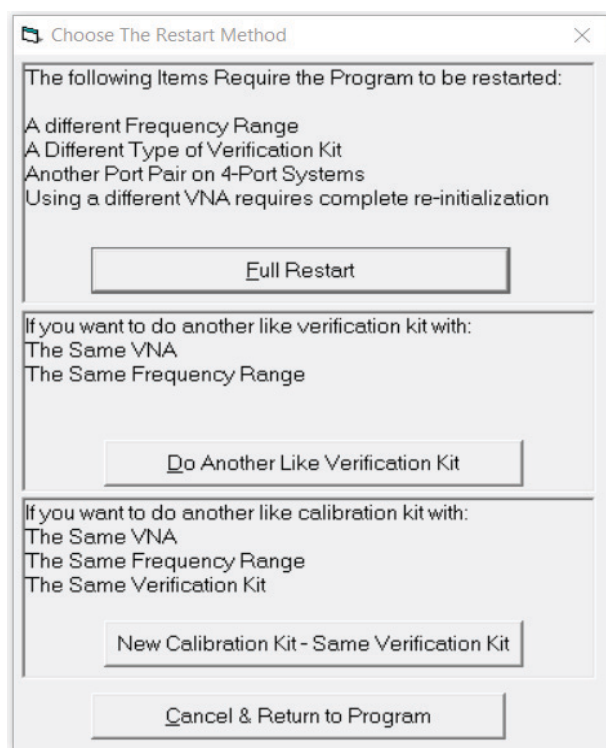

Figure 3-82. Choose The Restart Method Dialog
3. The Choose The Restart Method dialog box appears as shown in Figure 3-82.